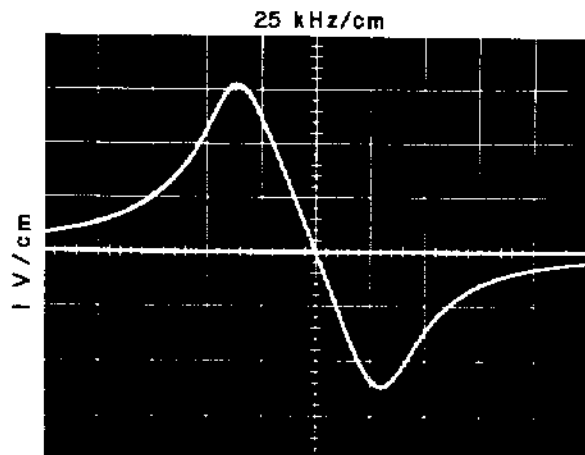

Figure 5-27. Typical Response, FM Discriminator
- (7) Adjust T1 for a symmetrical response about the marker.
- (8) If the adjustment of T1 moves the marker away from the x-axis, repeat steps (5) and (6) as many times as are required until a symmetrical response with the marker on the x-axis similar to Figure 5-27 is obtained (for clarity, the marker has been deleted). Verify that the discriminator zero crossing is 455.0 kHz, ± 0.4 kHz.
- (9) Replace the AM demodulator board (A9) after turning off the receiver.